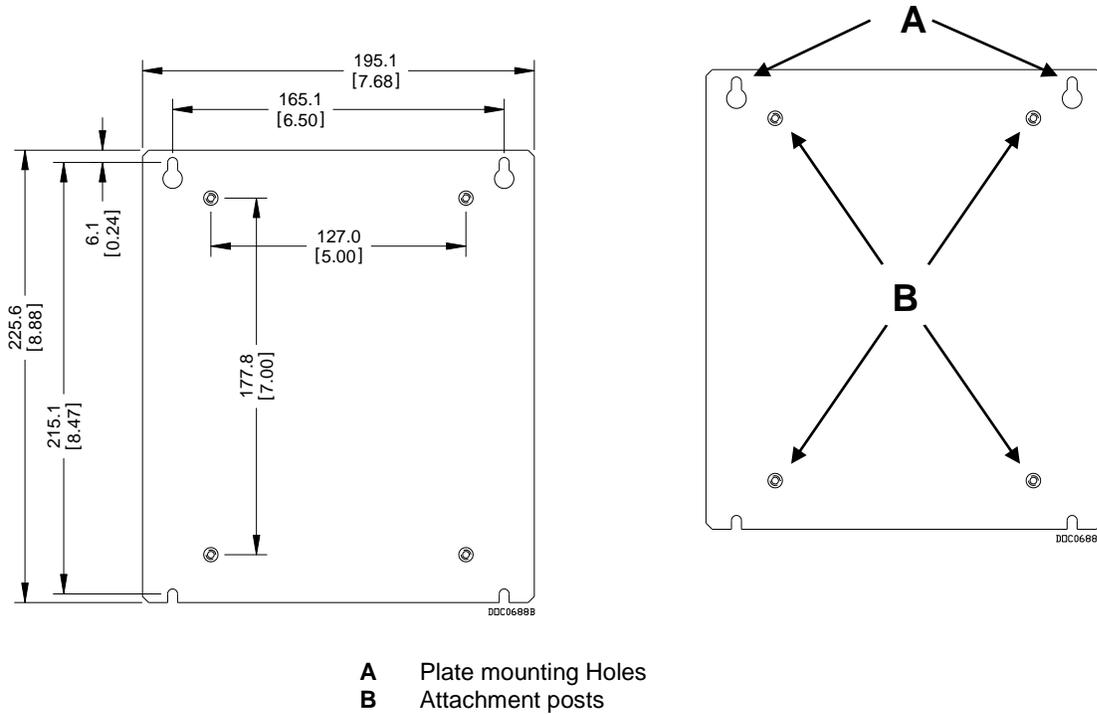

Figure 2-4. Adapter Plate (FB107 Base Unit)
1. Using the four holes on the FB107 base unit, mark the points at which the base unit should attach to the wall (refer to *Figure 2-4*).
Using an Adapter Plate To simplify installation, you can purchase an optional metal adapter plate (product number FS1ADP-1) for the FB107 base unit (*see Figure 2-4*). After you secure the adapter plate to its location (using #8 mounting screws), the FB107 base unit attaches directly to the adapter plate.